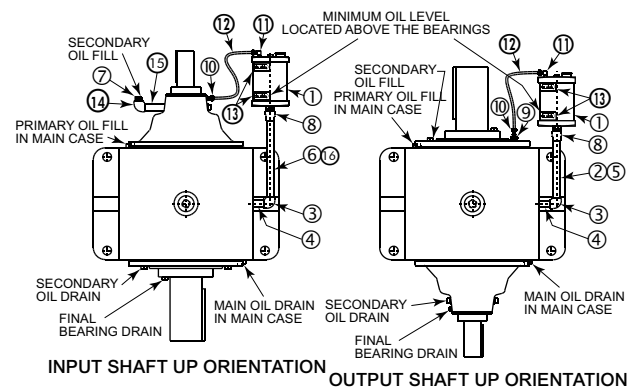

Figure 7.1a Vertical Service Shaft Orientations
Assemble components as shown in **Figure 7.1a** and **Table 7.1b**. It is difficult to determine all potential field installation interference points. If necessary please substitute different pipe fittings as required. In doing so, it is important that the bottom of the reservoir is at or above the uppermost bearing. Holes have been drilled by the factory to facilitate both right hand or left hand oil reservoir mounting. Apply pipe sealant to all threaded connections during assembly.
1. Begin by filling the reducer thru the primary oil fill in the maincase until full. Reference **Figure 7.1a**.
1. Begin by draining oil from main oil drain in maincase. Reference **Figure 7.1a**.